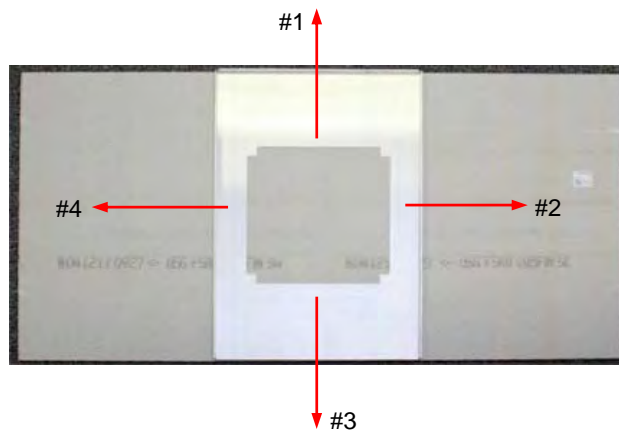

Figure 10: The four positions the
- The motorized camera lift system back box and ceiling tile brace allow for superior flexibility and positioning freedom when used with 2'x 2' and 2'x 4' ceiling tiles. The motorized camera lift system does not have to be mounted in the center of the tile. The motorized camera lift system back box can be turned to position the camera in four directions in the ceiling tile brace as well (see Figure 10). (Please review all installation instructions prior to starting installation).